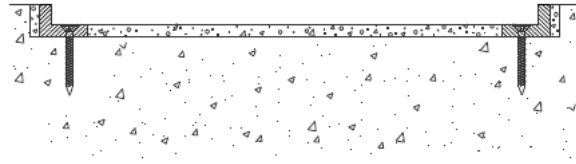

Figure 8
STEP 13. When the frame installation is complete, fill the recess bed inside the frame and any gap between the outside of the frame and the surrounding concrete with non-shrink grout (see Figure 8). The grout must be level with the top of the substrate and with the appropriate surface of the frame.